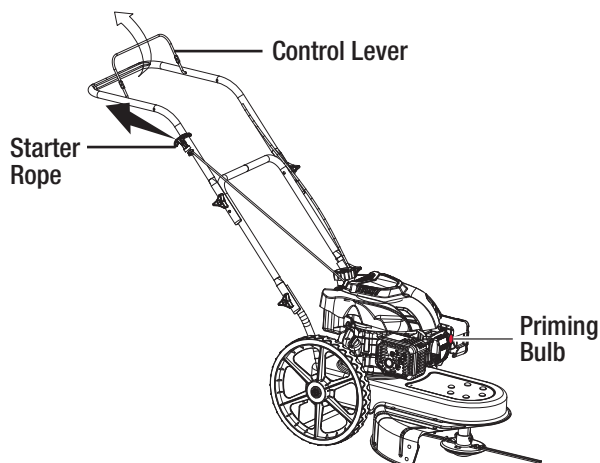

Figure 1-9
- Press the priming bulb one or two times and depress control lever. Pull the starter rope to start the engine. See Figure 1-9.